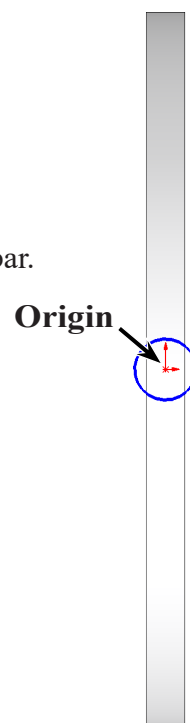

Fig. 9
Step 4. Sketch at **circle at Origin**  , **Fig. 9**.